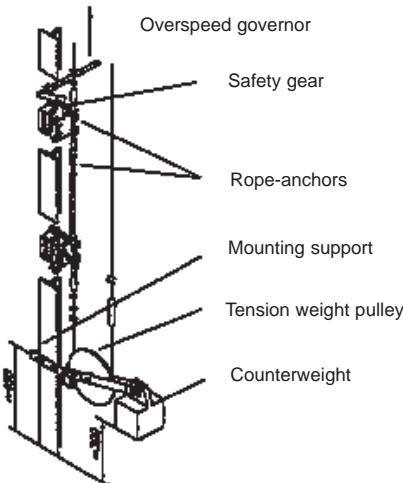

Fig. 1
- in no case, the counterweight must touch the floor (fig. 1);
- Supply the first rope-end with the rope-anchor (fig. 1) and attach it to the safety gear.
- Mount the mounting support at about 450 mm (approx. value, fig. 1) on the bottom of the shaft.